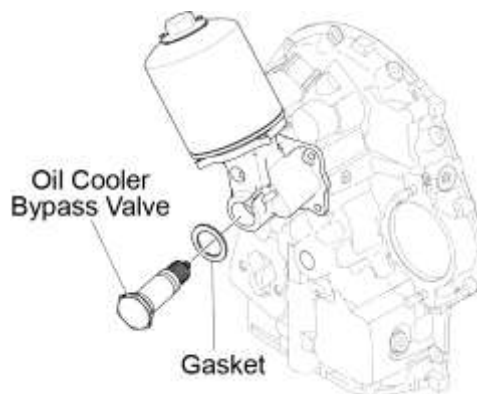

Figure 9
On engines with an oil filter (Figure 9).
On engines with an oil filter (Figure 9):
- Install the oil cooler bypass valve with a new gasket on the oil filter base as shown in Figure 9.